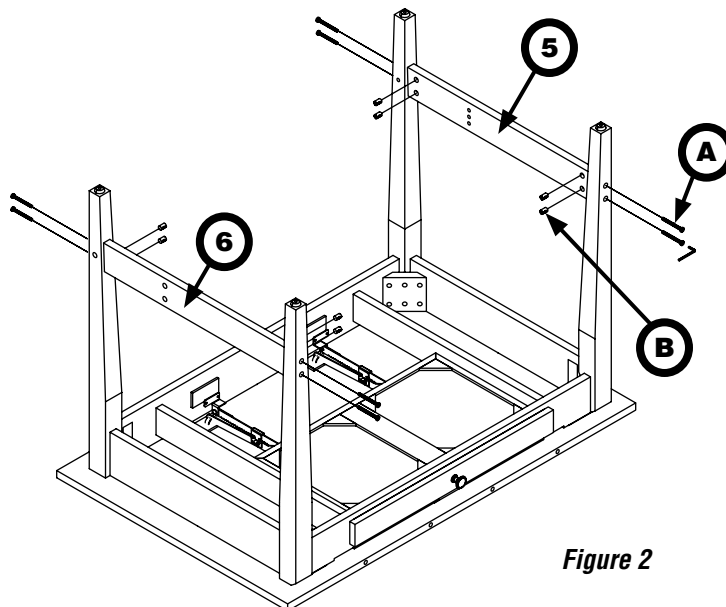

Figure 2
- 5** Connect side rails between legs using 2¼" bolts and barrel nuts (**B**) as shown in *Figure 2*. Keep all bolts slightly loose to allow for assembly steps to follow.